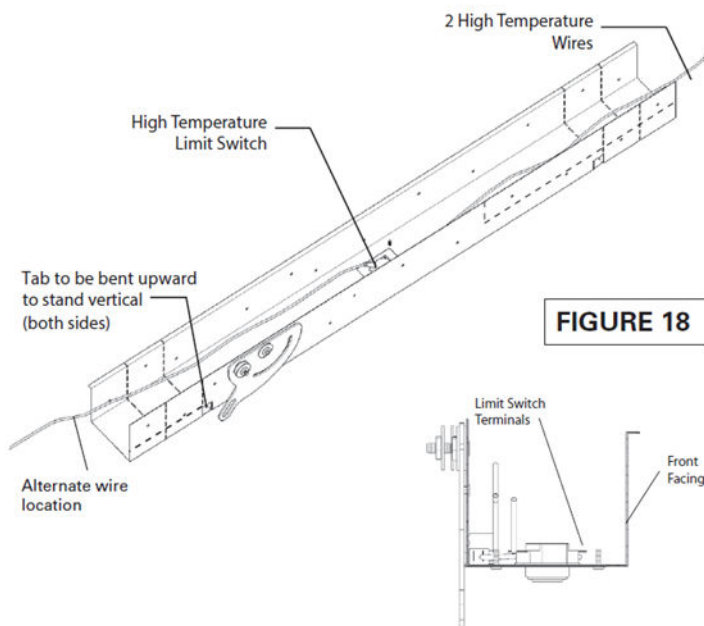

FIGURE 18
9. The high temp lintel (**Figure 18**), as supplied, is forty-five inches (45") long and fits the BVETTO models 36 & 46. Field cut the high temp lintel equally at the perforated lines as required for the 36" unit. This will ensure the limit switch and micro-switch are in the proper position on the lintel.